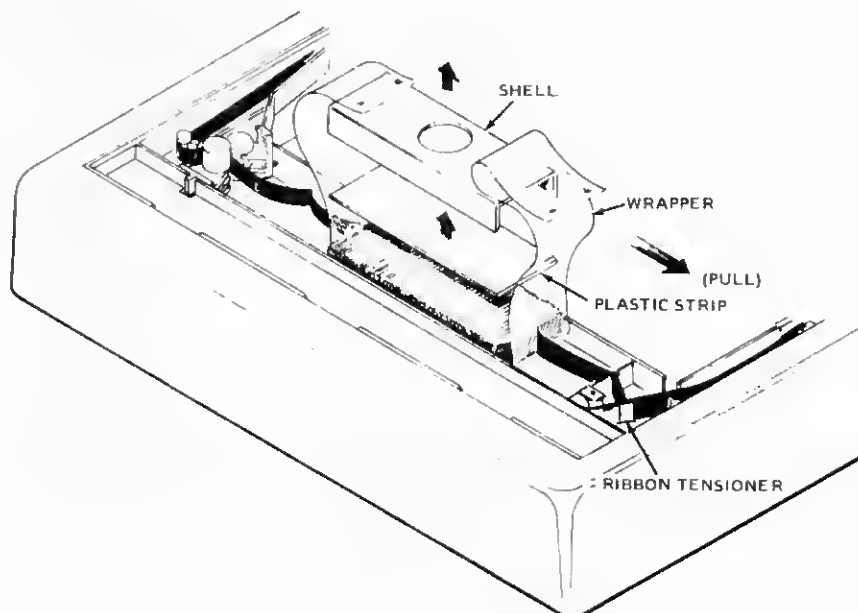

Figure 5. ZIP-PACK INSTALLATION DIAGRAM
6. Place Zip-Pack in printer tray as shown in Figure 5.